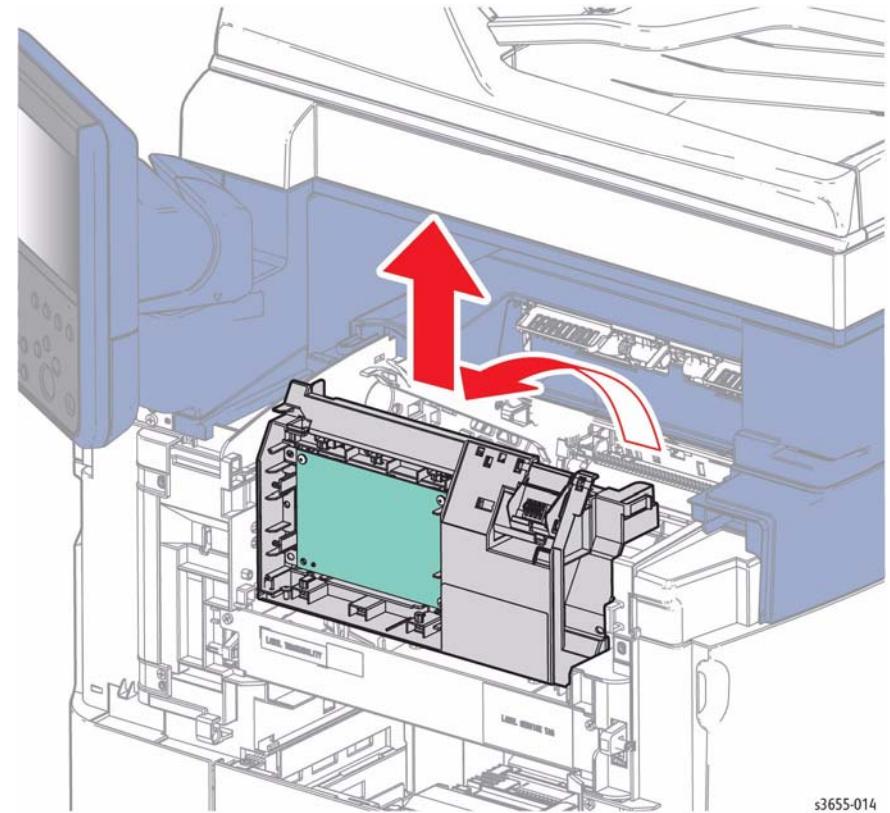

Figure 3 Rotate the MCU Housing
8. Refer to Figure 3 to locate and release the right side hook and rotate the MCU housing toward the front, then up off of the pins.